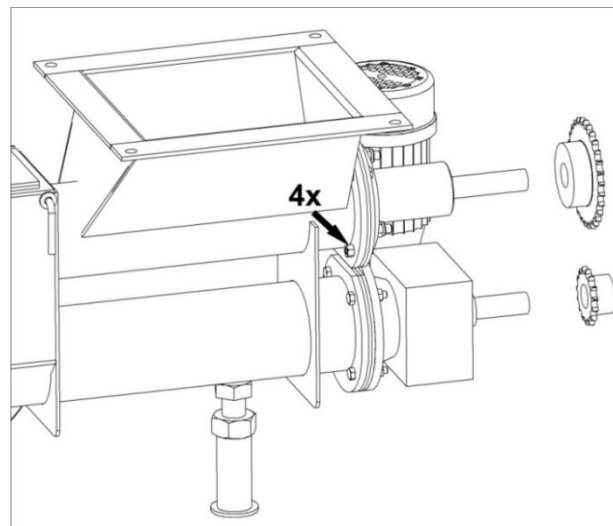

Fig 15. Removing the upper axis flange
- Unscrew the four nuts from the back side of the flange (see Fig 15)